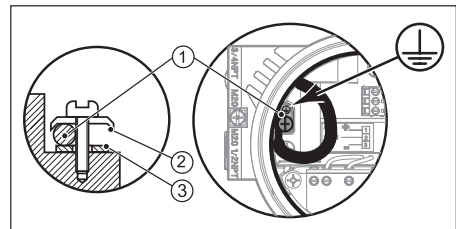

Fig. 4.1 Earth wire connections
- * If required, mount earth wire (1) between top (2) and bottom (3) ring of earth wire connection (see figure 4.1).